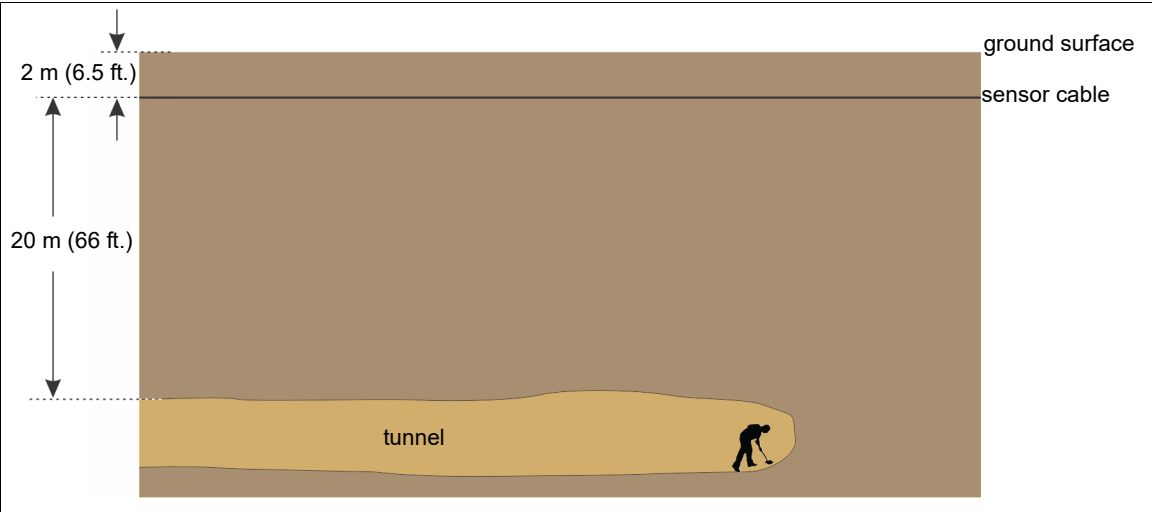

Figure 64: Sensor cable burial for tunneling detection
- burial depth (tunneling activity): the recommended burial depth for the sensor cable is a minimum 2 m (6.5 ft.) (see Figure 64:)